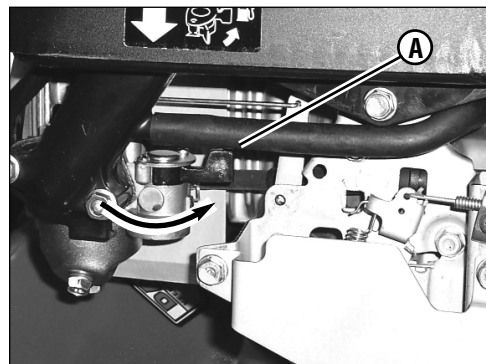

Figure 3: Fuel shut-off
1. Make sure the fuel valve (**A, Figure 3**) on the engine is open.